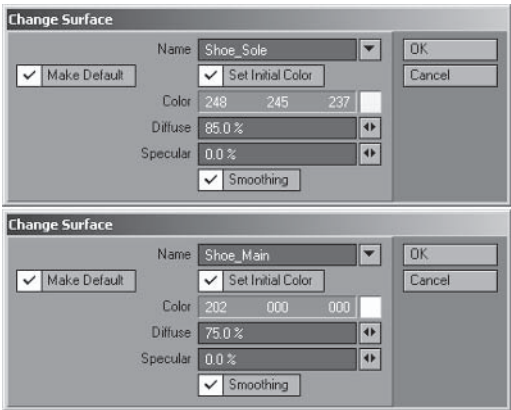

Figure 5.5-10. Shoe surface settings.
17. Now select the sole and **Change Surface** to **Shoe_Sole** using the settings in Figure 5.5-10.
18. Select the main part of the shoe and **Change Surface** to **Shoe_Main** using the settings in Figure 5.5-10.